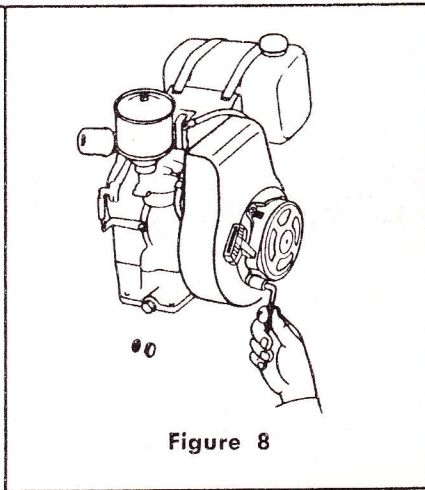

Figure 8
6. Replace blower housing on engine (Fig. 8) and check again to be sure alignment is proper by pulling the recoil several times to be sure there is no binding. (If binding occurs loosen nuts holding starter and again center starter on studs and re-tighten.)